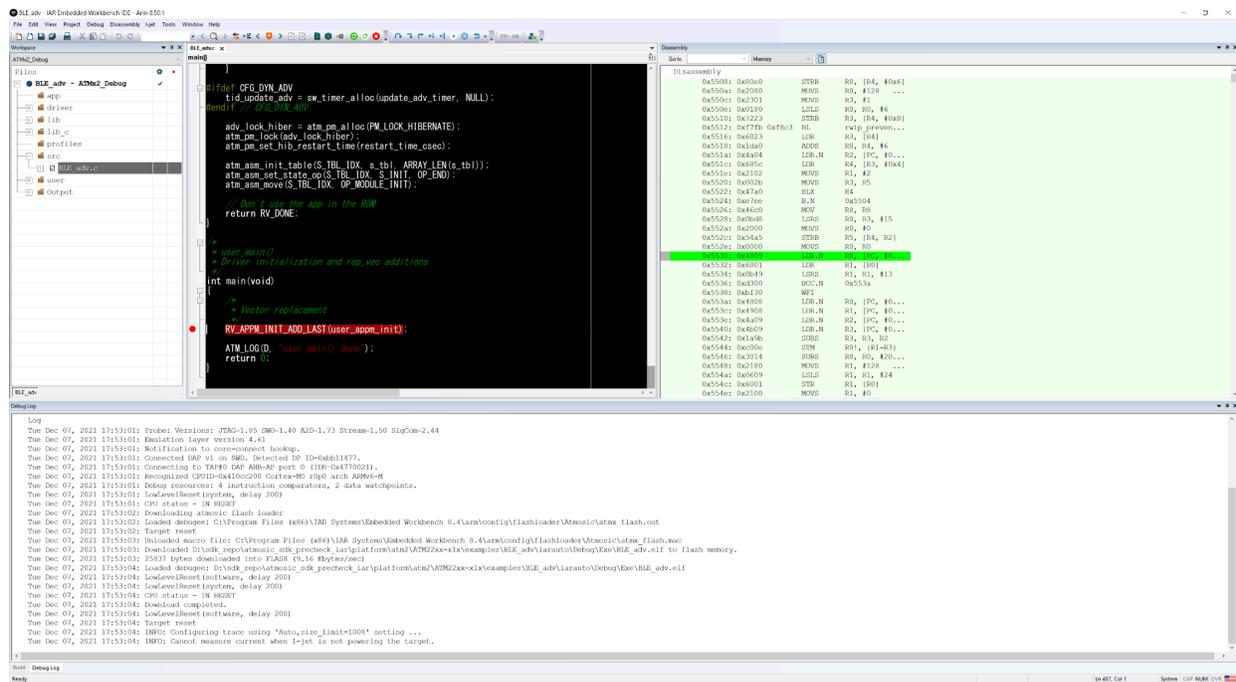

Figure 4 - Debug Session
- Figure 4 - Debug Session
3) Run time debugger, Figure 4 shows the layout of the debugger session as an example